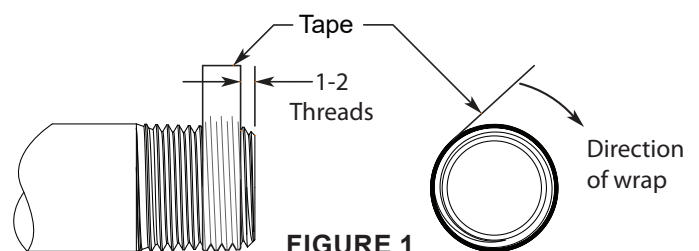

FIGURE 1
3. Wrench tighten tailpipes of upper and lower valves to the vessel using Teflon® tape, or equivalent, on all male tapered pipe thread connections as shown in Figure 1. If valve is flange or weld mounted, use proper industry standard procedures.
- Remake connection using Teflon® tape, or equivalent, on all male pipe threads as shown in **Figure 1**.